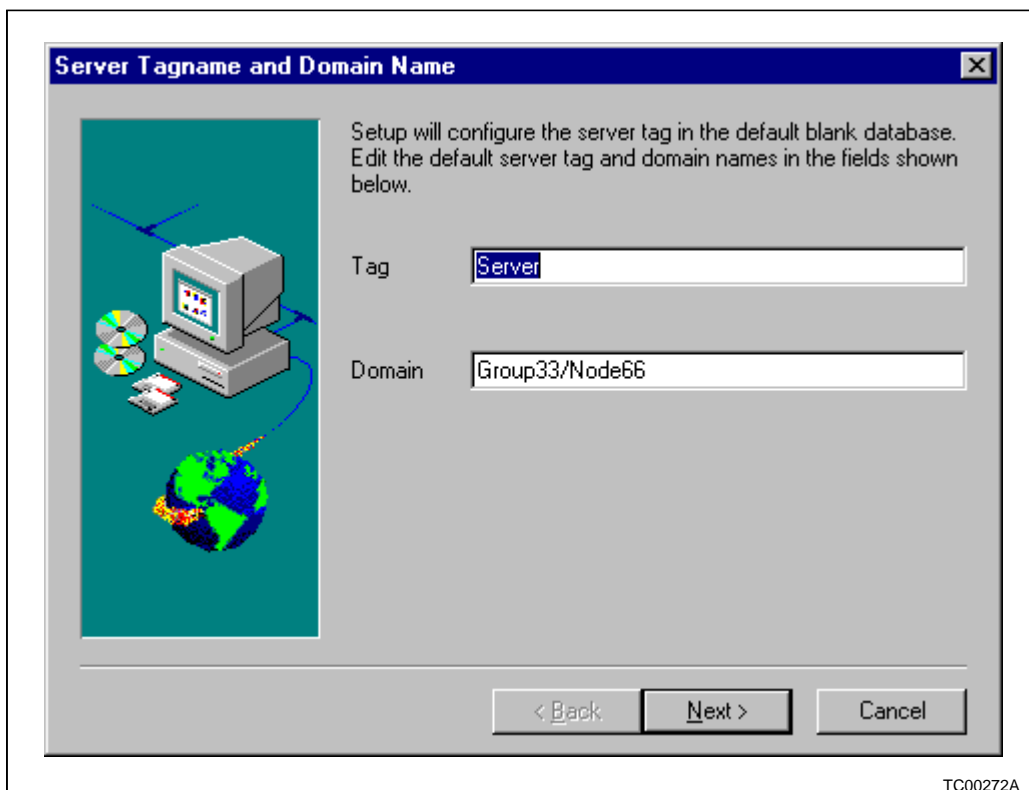

Figure 4-3. Tagname and Domain Window
18. Next the INFI90 applications are installed from the CD. A pop-up dialog appears requesting a server tag and a server domain name (Figure 4-3). In the *Tag* field the name *Server* is the default. The name can be changed but there is a string limit of 12 characters in this field.